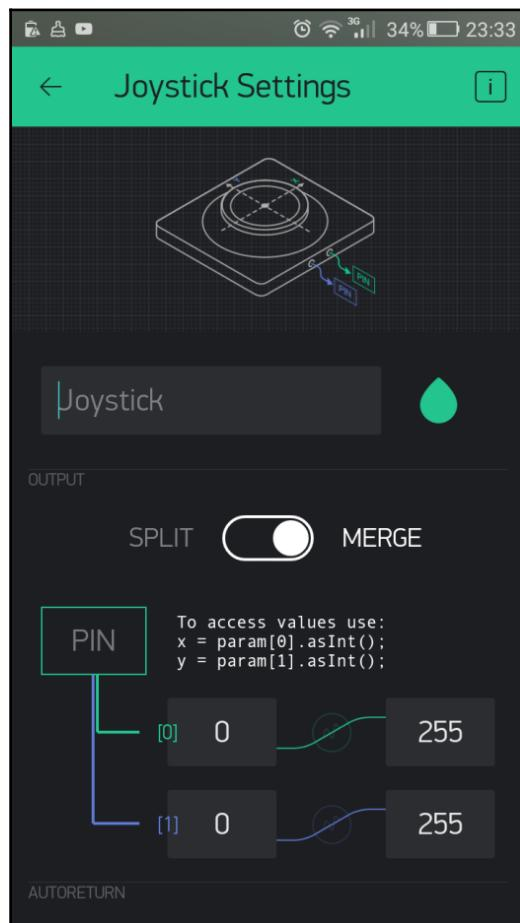

Figure 2.26: Joystick widget settings
9. Slide the **SPLIT/MERGE** switch to **Merge** (*Figure 2.26*):